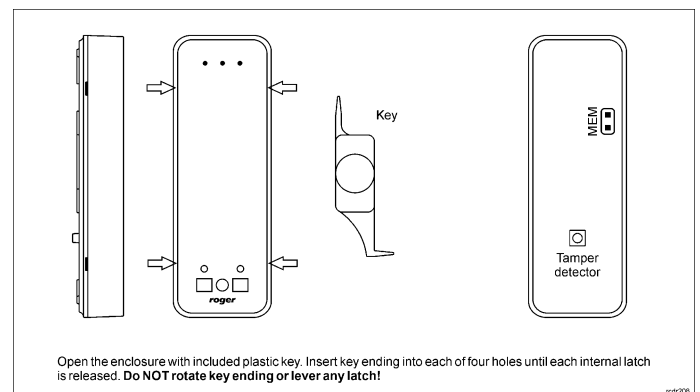

Fig. 2 Enclosure opening and location of service contact
Note: Remote configuration of device from VISO v2 software is possible only if jumper is placed on MEM contacts (fig. 2). If the jumper is removed, then such configuration is blocked. In case of factory new device, jumper is placed on MEM contacts.
In RACS 5 v2 system the reader can be installed at site without previous configuration. According to AN006 application note, its address and other settings can be configured from VISO v2 management software and during such configuration the access to its service contacts (fig. 2) is not required.
2. Remove jumper from MEM contacts (fig. 2) if it is placed there.
2. Place jumper on MEM contacts (fig. 2).